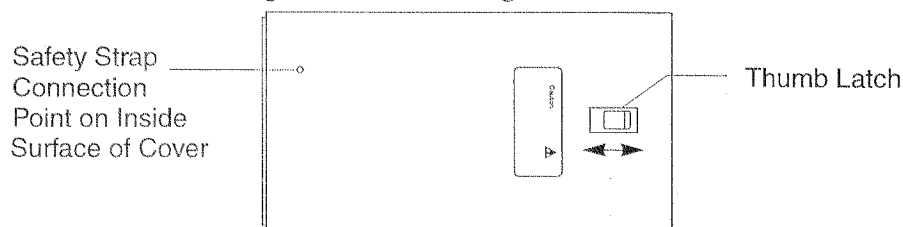

Figure 2.10. *Top and Bottom Access Doors*
2. Remove the top and bottom access doors from the fixture by sliding the thumb latch on each door towards the rear of the fixture and then lifting the door off. The doors are connected to the fixture by a safety strap. You can unclip the doors from the safety strap or leave them attached for this procedure. The doors are interchangeable. Refer to Figure 2.10.